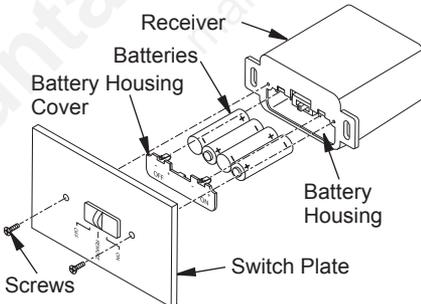

Figure 27 - Installing Receiver Batteries
1. Remove battery housing cover on receiver to expose battery housing (see figure 27).